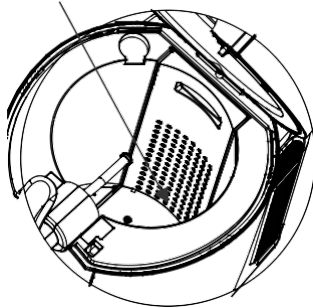

Figure 5
3. Set the water drip tray into the notch provided. (Show as figure 5)